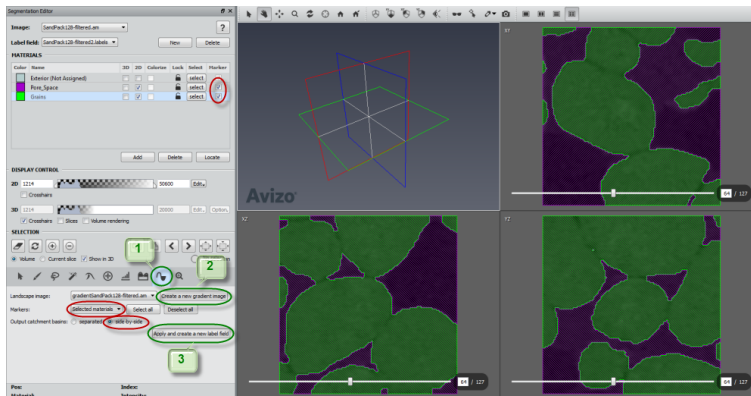

Figure 6.66: Apply Segmentation Editor watershed.
- Press *Apply and create new label field* (see Figure 6.66).